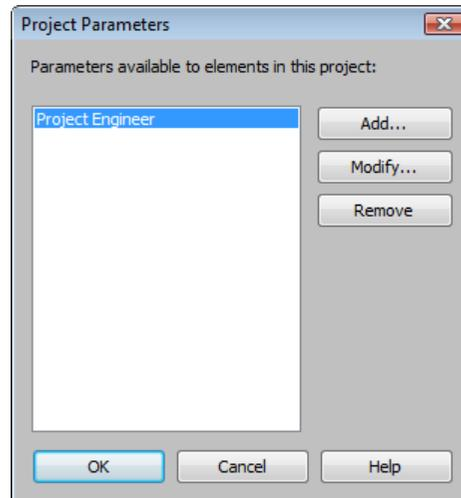

Figure 3-41 The *Project Parameters* dialog box
10. Choose the **OK** button in the **Parameter Properties** dialog box; the **Project Parameters** dialog box is displayed, as shown in Figure 3-41.